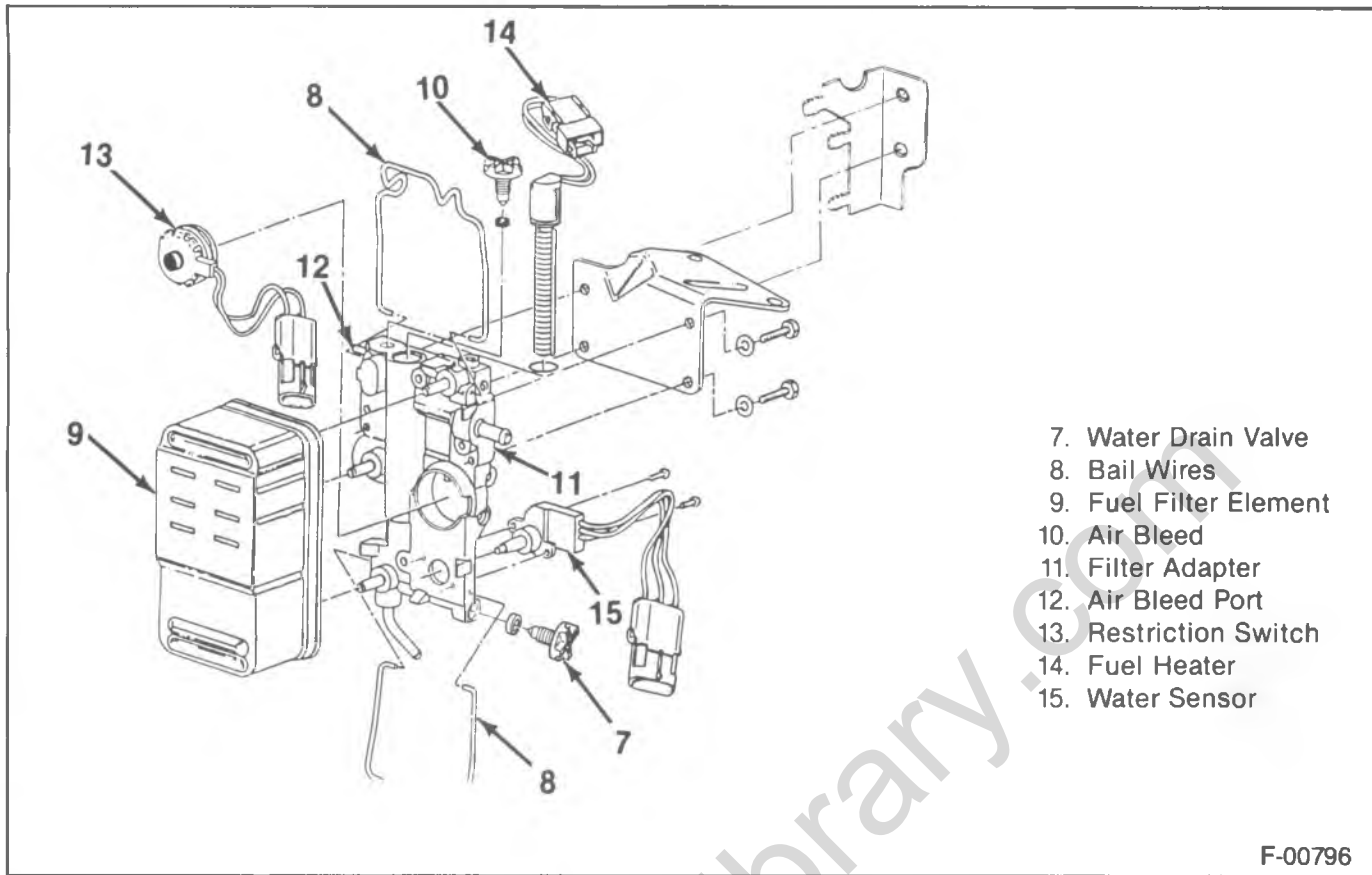

Figure 2—Diesel Fuel Filter
The diesel engine fuel filter is an inline type filter which combines several different functions. It acts as a filter, water separator, water detector, water drain, and a fuel heater (Figure 2).
4. Open the drain valve (7) two to three turns (figure 2).
6. Stop the engine and close the drain valve (7).
↔ Remove or Disconnect (Figure 2)
↔ Install or Connect (Figure 2)
All component parts of the fuel filter assembly are serviceable. These components include the filter adapter, restriction switch, fuel heater, and the water sensor (figure 2).